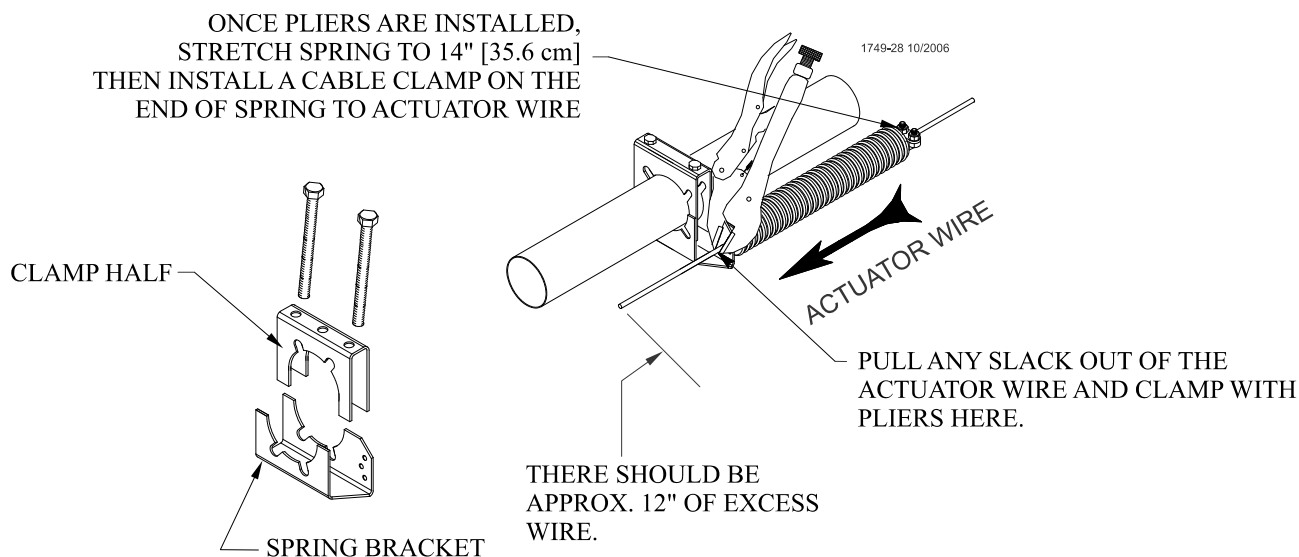

Figure 65. Terminal Bracket
7. Clamp with pliers once slack has been removed from the actuator wire, see figure 65.
10. Clamp the springs to the actuator wire using an 1/8 inch cable clamp, see figure 65. Repeat procedure for the remaining actuator wire installation,